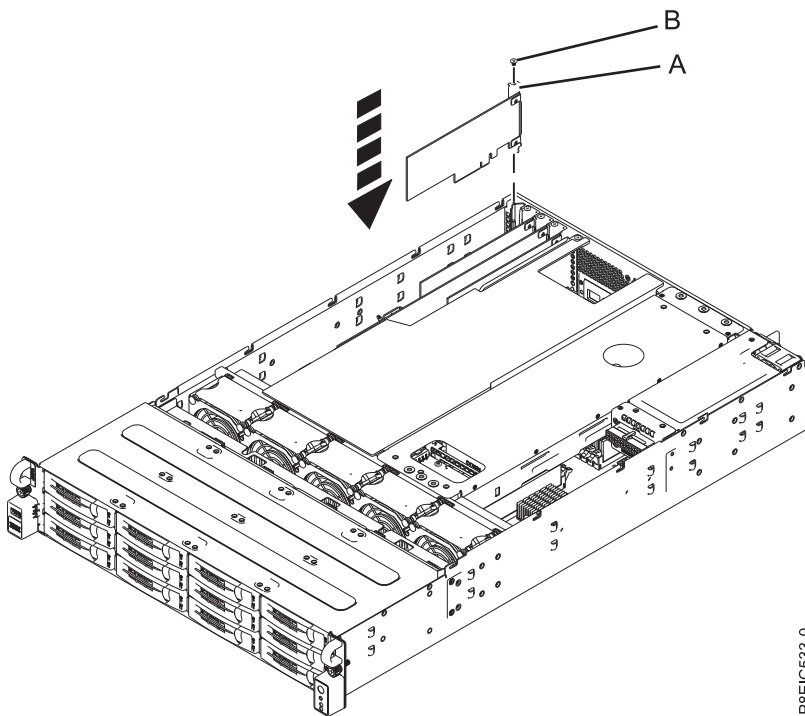

Figure 36. Installing the PCIe3 low profile 6 Gb SAS/SATA RAID adapter (FC EC3Y - PMC 71605E) (A) and screw (B) in the system
- b. Insert the RAID adapter (A) into the adapter slot of the system backplane PCIe, aligning the adapter properly and inserting it fully into the slot.
- c. Insert the retaining screw (B) and tighten it to secure the RAID adapter in the system, as shown in Figure 36.